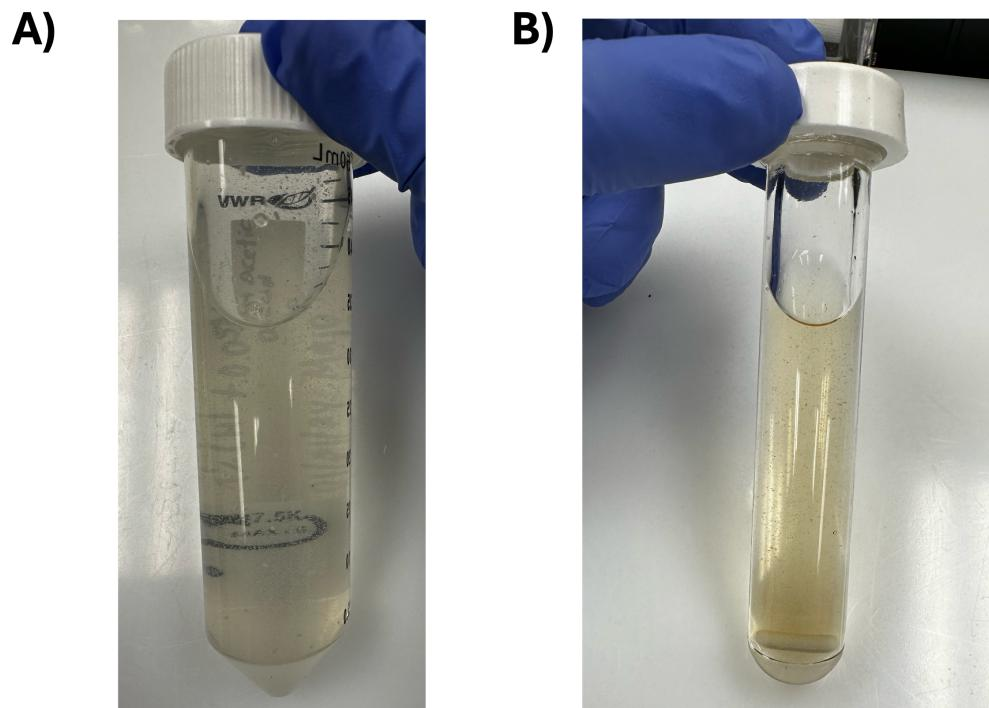

Figure 5. Representative photos of lower molecular weight deacylated chitosan solutions.
- Representative photos of "as prepared" particle solutions are shown in **Fig 5**.